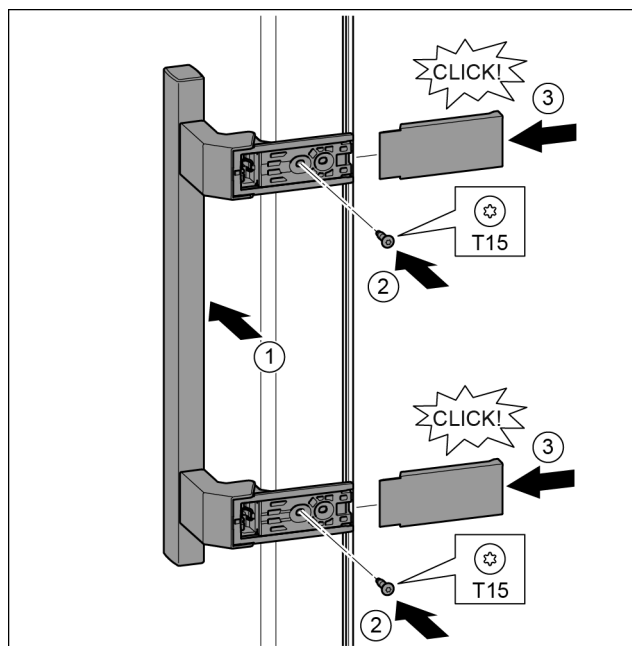

Fig. 34
- Position the handle on the other side. Fig. 34 (1)
- Tighten the screws with the T15 screwdriver. Fig. 34 (2)
- Position the covers on the side and push in. Fig. 34 (3)